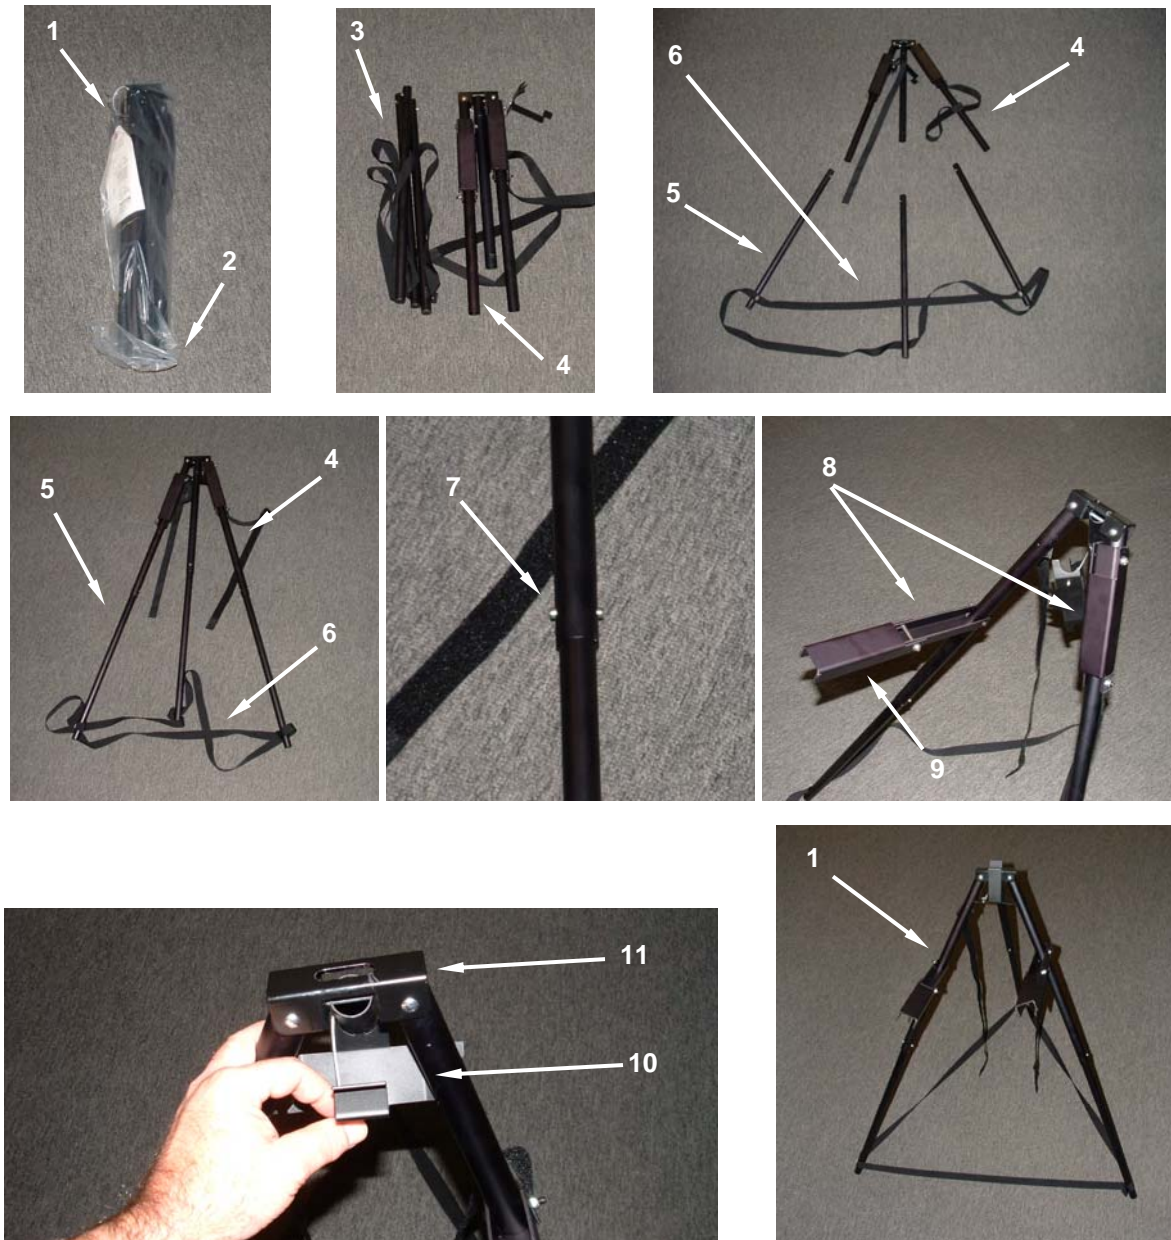

Figure 9. Fuel Can Stand Assembly.
Select a site for the fuel can stand (**Figure 9, Item 1**) that is a minimum of 5 feet (1.5 m) but no more than 8 feet (2.4m) from the fuel quick disconnect connector on the heater. The fuel can stand with fuel can should be level or slightly elevated above heater as detailed in the next section. No heat or flame sources, other than the heater, is allowed within 8 feet (2.4 m) of fuel can stand. Set up the fuel can stand in accordance with the instructions detailed below. For convenience in the field, an instruction card with abbreviated procedure is attached to the fuel can stand.
1. Remove the stand components from the plastic bag (**Figure 9, Item 2**), and retain the bag for packing.
2. Lay out the bottom leg assembly (**Figure 9, Item 3**) and the top leg assembly (**Figure 9, Item 4**) as shown.
3. Orient each bottom leg (**Figure 9, Item 5**) so that the stabilizing strap (**Figure 9, Item 6**) is not twisted. The stabilizing strap is designed to ensure the stand is stable, but are also designed to prevent the stand from sinking into snow.
4. Insert each bottom leg (**Figure 9, Item 5**) into the top leg assembly (**Figure 9, Item 4**) until the leg is locked in place. This may be verified by observing the locking pins (**Figure 9, Item 7**).
5. Spread the fuel can stand (**Figure 9, Item 1**) until the stabilizing strap (**Figure 9, Item 6**) is fully extended and the stand is stable.
6. Lower the support arms (**Figure 9, Item 8**) so that each is at a right angle to its attached leg, and then unfold and lock the support arm extensions (**Figure 9, Item 9**) in place.
7. Place the tripod brace (**Figure 9, Item 10**) under the top bracket (**Figure 9, Item 11**) of the stand and clip into position over the front of the top bracket.